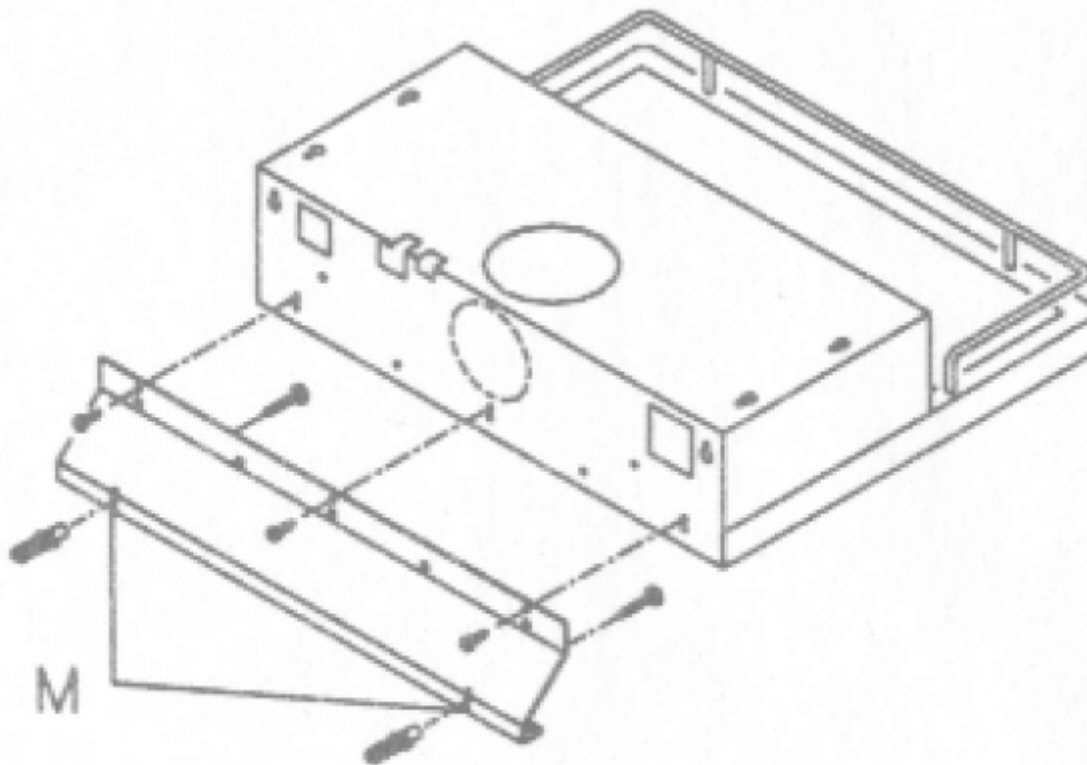

Fig. 7
On request, you can obtain a spacer to cover the gap between the hood and the wall behind it (Fig. 7, below).
5. After you have assembled the hood, secure the spacer to the rear wall, tightening the screws you have just inserted the rest of the way in (see Fig. 7).